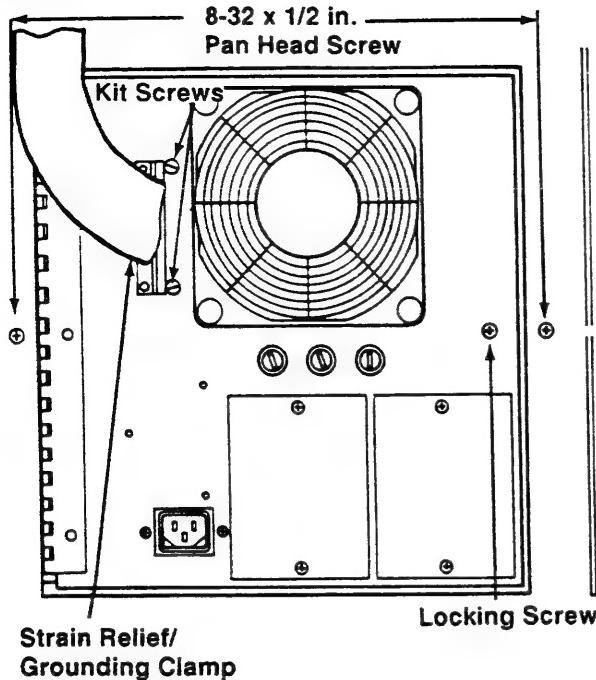
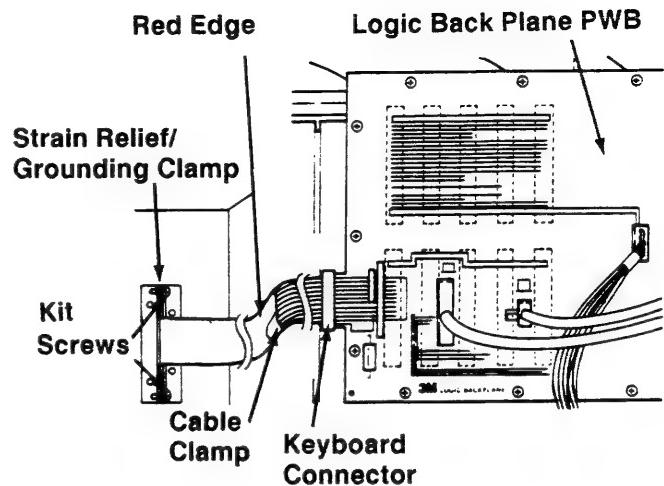

Figure 2-3.1E
Figure 2-3.1F
10. Loosely install two 8-32 x 1/2 in. Pan Head Taptite Screws (item 2) at the rear of the Workstation (Figure 2-3.1E).
11. Position the Keyboard (item 6) on either the Right or Left Workstation Arm and route the Keyboard Harness between the M-7530/7540 and Workstation to the rear.
12. Remove the protective liner from both Cable Clamps (item 28) and adhere them to the right and left sides of the Workstation about 3/4 distance from the front and 3/4 distance from the bottom.
14. Remove the Locking Screw securing the Rear Door of the Workstation and open the Rear Door (Figure 2-3.1E).
15. With the red edge of the keyboard cable up, feed the Edgocard Connector and harness through the slot in the Rear Door (Figure 2-3.1E).
16. Install the threaded half of the Strain Relief/Grounding Clamp (Item 26) on the inside of the Rear Door (Figure 2-3.1E) with the Kit Screws (Figure 2-3.1F).
17. Install the non-threaded half of the Strain Relief/Grounding Clamp on the threaded half installed in Step 14 using the Kit Screws (Figure 2-3.1F).
18. Position the exposed Copper Shield of the harness within the Strain Relief/Grounding Cable Clamp and tighten the screws (Figure 2-3.1F) installed in Step 15.
19. With the red edge of the cable up plug the Keyboard Harness Edgocard Connector into the left edge of the Logic Back Plane PWB (Figure 2-3.1F)
20. Install the Keyboard Harness in the Cable Clamp mounted on the right side of the Page Search Module (Figure 2-3.1F).